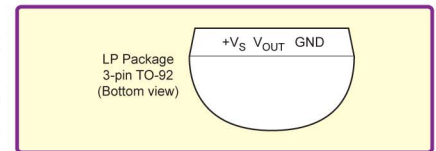

Fig.2. Pinout of the LM35 TO-92 precision Celsius temperature sensor
Let's look at an example of a common use for look-up tables. I recently built a project that used the LM35 precision Celsius temperature sensor from Texas Instruments. It has a working voltage of 4V to 30V; comes in a 3-pin TO92 package (as well as SOIC, TO-CAN and TO-220); has an accuracy of $\pm 0.5^\circ\text{C}$ and a temperature range from -55°C to 150°C . Fig.2 shows the pin out for this device. It has a linear scale factor of 10mV per $^\circ\text{C}$, which means for every 1°C change in temperature the output changes by 10mV. One way to think about this sensor is to say there are 410 unique temperature values: max temperature (150) minus minimum temperature (-55), all divided by the accuracy (0.5).